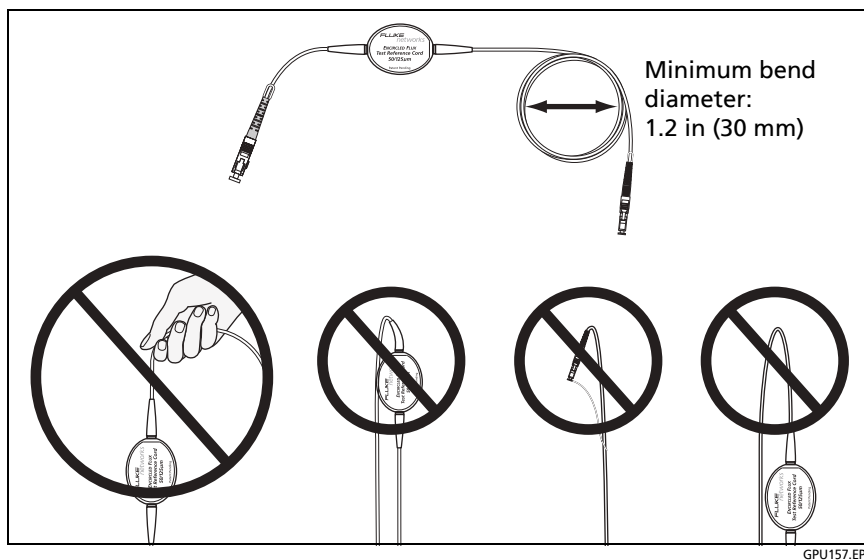

Figure 56. How to Prevent Damage to the EF-TRC Fiber Cables
- Always follow the handling guidelines given in Figure 56.